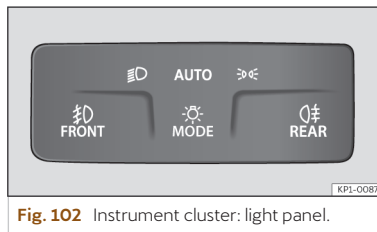

Fig. 102 Instrument cluster: light panel.
- Switch on the ignition and select mode **AUTO** on the headlight control >>> **Fig. 102**.
- Switching off mode **AUTO** on the headlight control >>> **Fig. 102**.